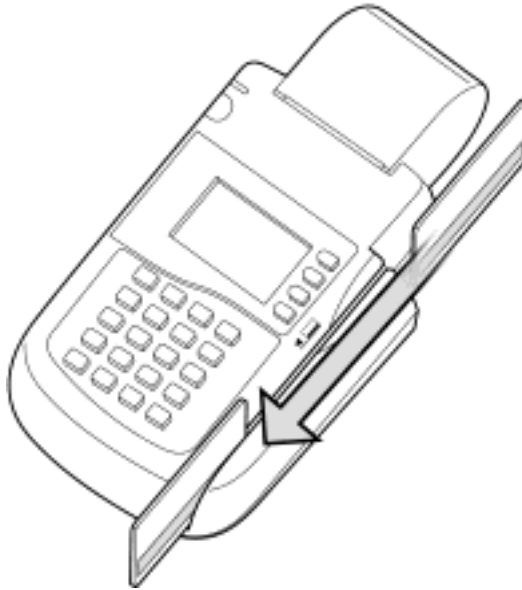

Figure 5 Using the Omni 3200 Card Reader
- A magnetic stripe card reader, built in to the right side of the terminal. A graphical icon, shown to the right, indicates the proper card position and swipe direction (see Figure 5).